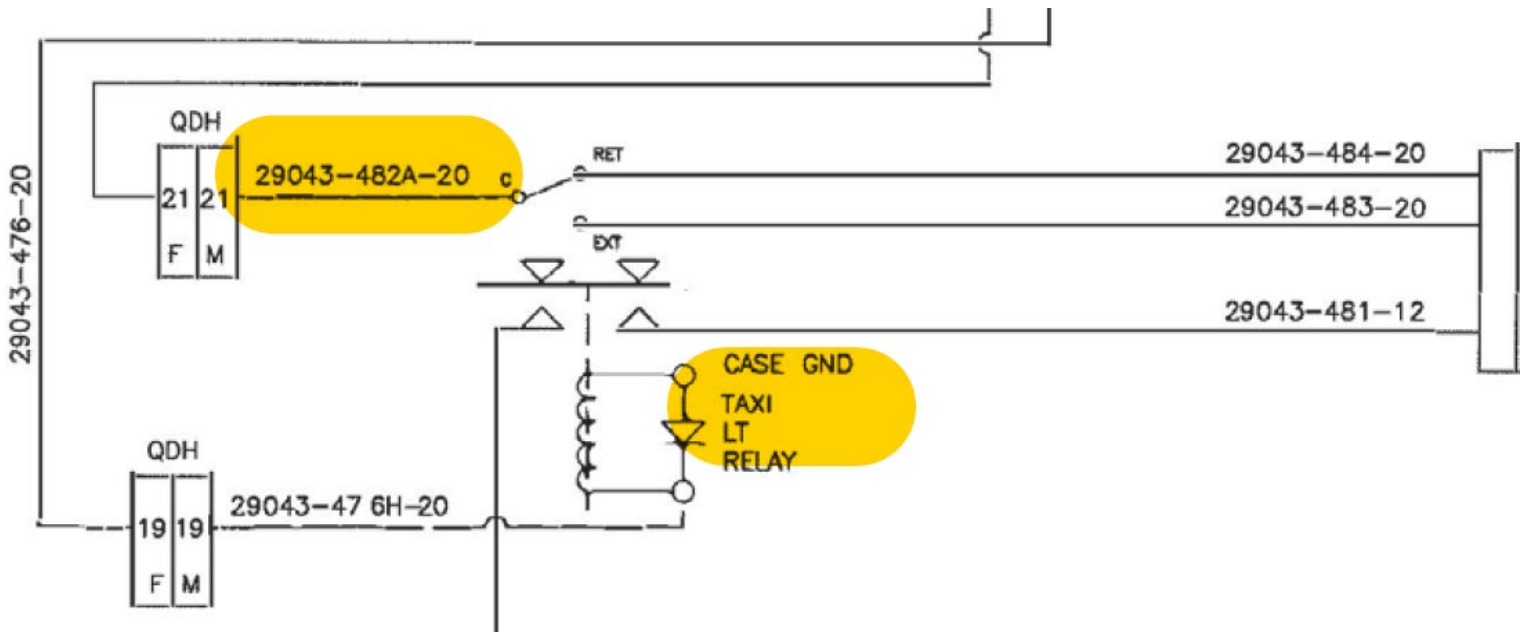

Figure 14: Taxi Light Side Panel Switch and Taxi Light Relay Case Ground Wires
- Connect 29043-482A-20 wire to the Taxi Light Panel Switch Extend/Retract. Connect the 20 AWG wire (4 inch length) to the Taxi Light Relay (29043-9120) case ground (Refer to Figure 14).